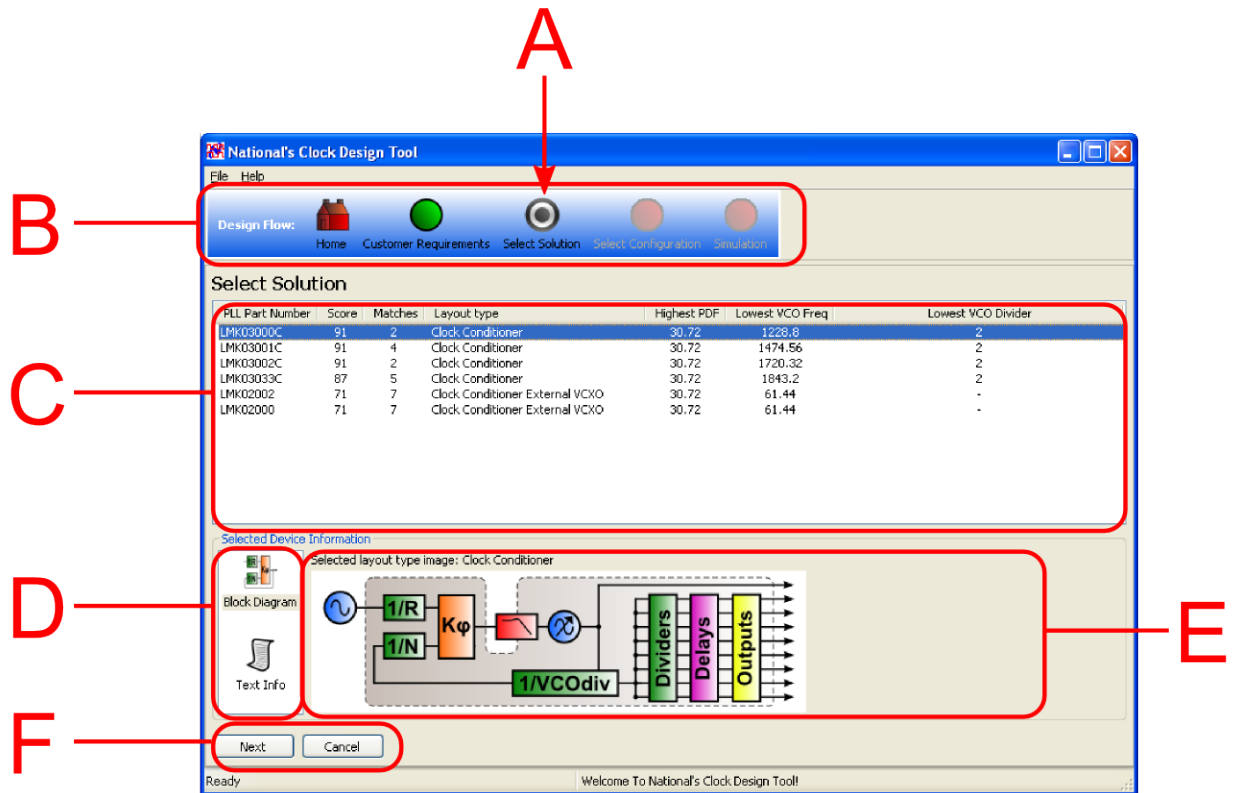
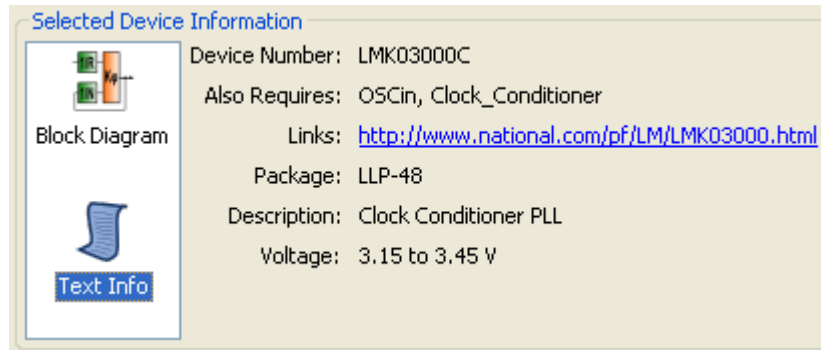

Figure 6: Select Solution
Figure 7: Text Info displayed
The Select Solution screen is displayed after the customer requirements screen in the design flow, see the black and white dot icon (A) for current step, Figure 6 above.
The listbox (C), Figure 6, highlights the National parts which will meet the frequency and output requirements as entered from the customer requirements screen. Different devices will use different VCO frequencies and divider values to achieve the same result. The various solutions are scored to estimate which solution will have the best performance. The higher scored devices are listed first.
The icons in (D), Figure 6, allows a block diagram or text information to be displayed in region (E) describing the currently selected solution. Region (E) shows a generalized block diagram of the device. When “Text Info” is selected the block in Figure 7 is shown.